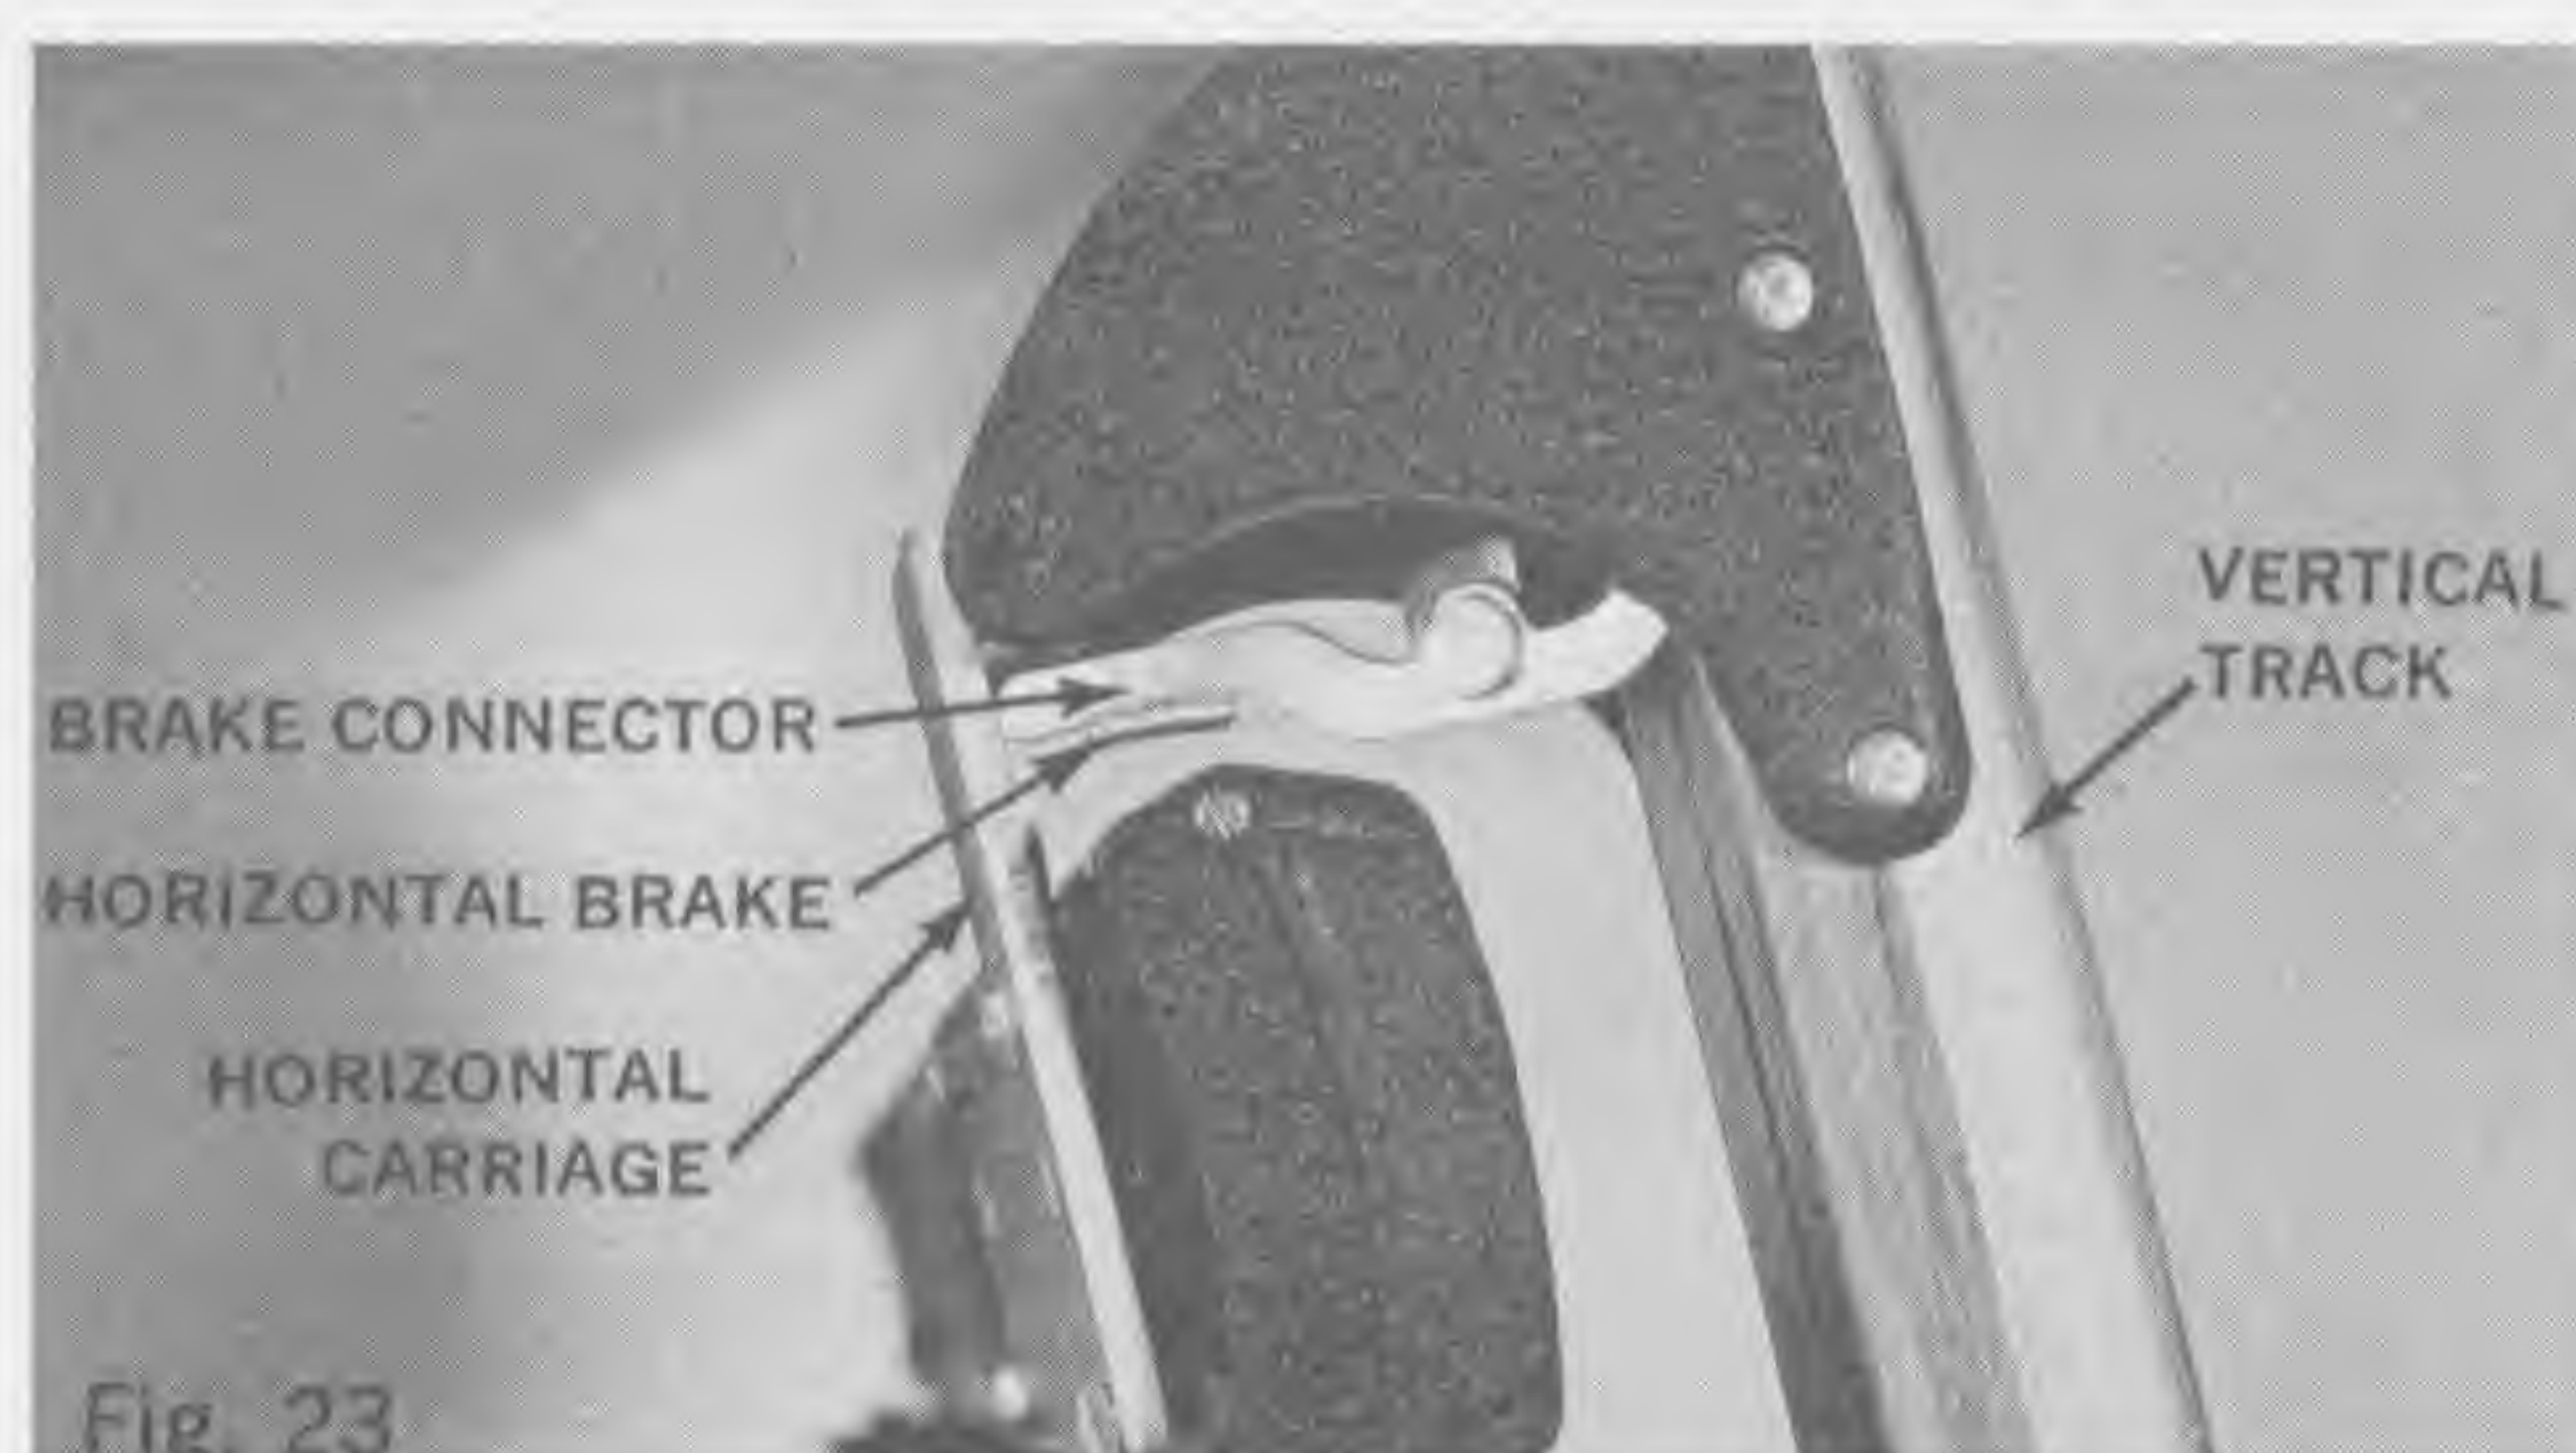

Fig. 23
4. Check the brake adjustment. The carriage should move freely with the brake released, and the brake connector (Fig. 23) should have at least .010" of additional free travel when the brake is locked.
the vertical carriage as described on Page 13 and replace the part. If a part in the horizontal brake system which is located on the horizontal carriage is broken or missing, it can also be replaced after removing the carriage as described on Page 13. Also, a damaged brake connector (Fig. 23 above) can easily be replaced or, if bent, it can be straightened by hand.
4. **HORIZONTAL BRAKE LEVER.** If the horizontal brake lever (Page 5, Fig. 9) does not actuate the brake connector (Fig. 23 above) properly, remove the lever by releasing the shoulder screw which holds it in place. Examine the cam part (the steel disc which works against the actuating rod in the track) of the lever. If there is excessive wear, or if there is any looseness between the lever arm and cam, the part should be replaced.